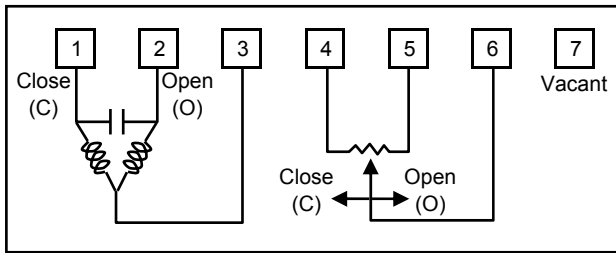

Figure 16. Terminals connection of Model VY5410F00XX (Nominal 135 Ω feedback potentiometer type)
- 3) Correctly connect the wires to the terminals with M3.5 screw terminal lugs, referring to Figs 16 to 24.